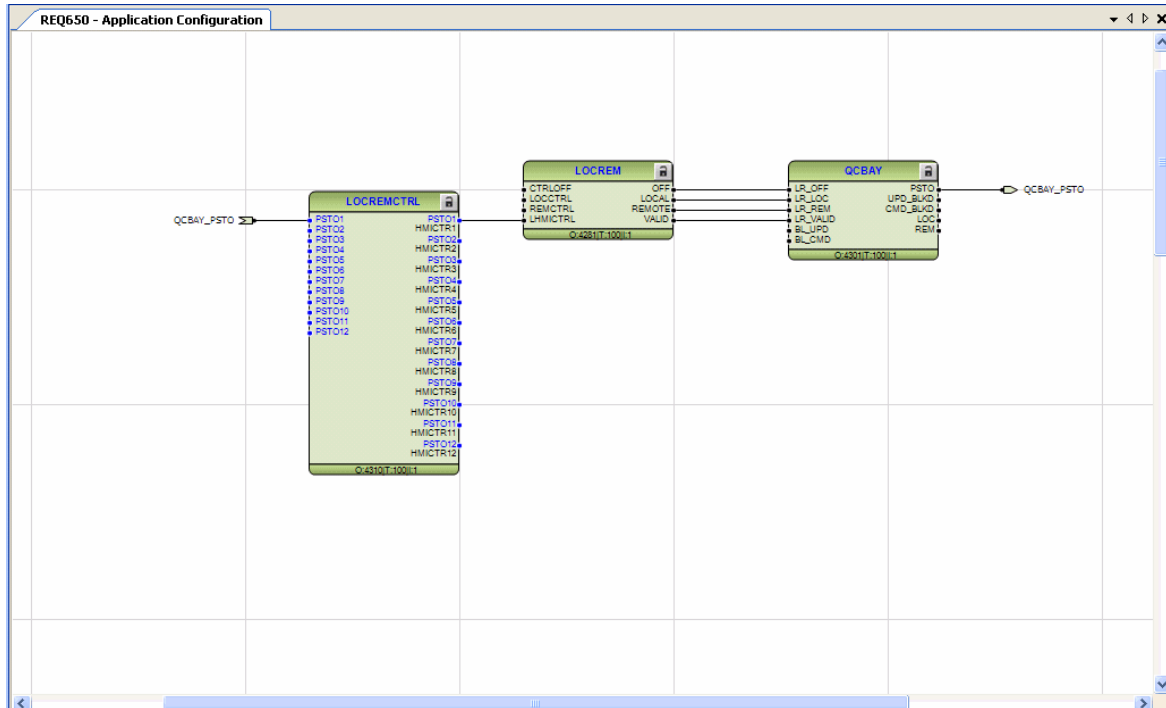
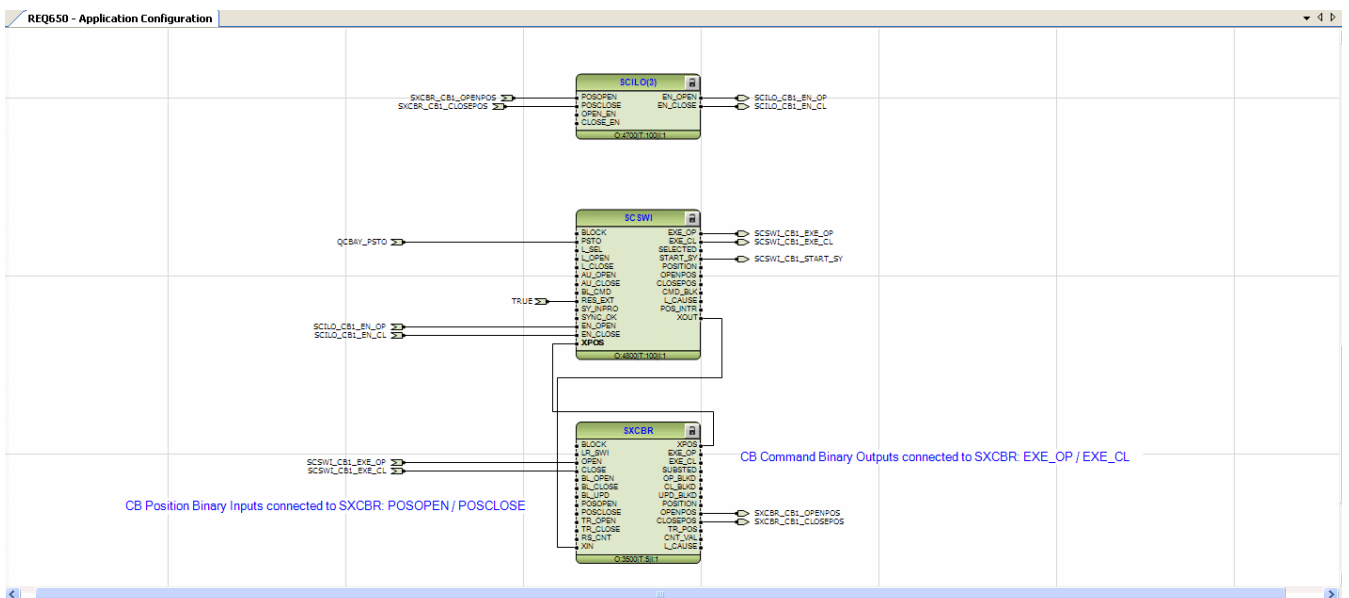

Figure 3 Bay local remote switch
Figure 4 CBC Application configuration
- Figure 3 and figure 4 will be added to the application configuration
Figure 3 shows the bay remote switch which is common for all CBC packages. Figure 4 shows a part for one circuit breaker application. For applications with more than one circuit breaker (CBC2, CBC3, CBC4), copy this part per circuit breaker in application.
Enabled open or close position outputs will be connected to switch controller, SCSWI, as figure 4 shows.